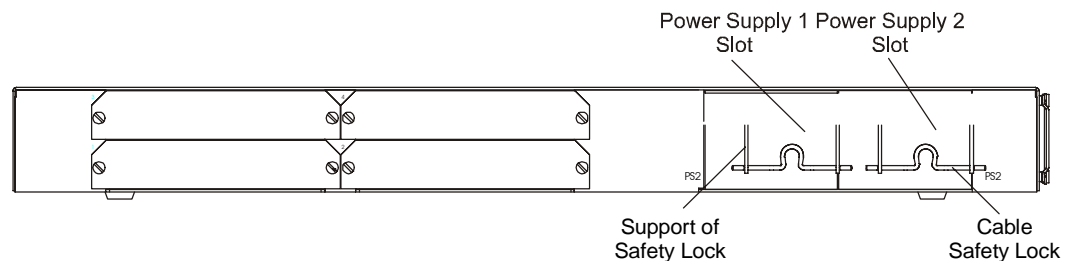

Figure 2-15. IPmux-8/16 Rear Panel – PS Replacement
4. Pull the black knob in the power supply panel and remove the replaceable power supply unit (see Figure 2-15).